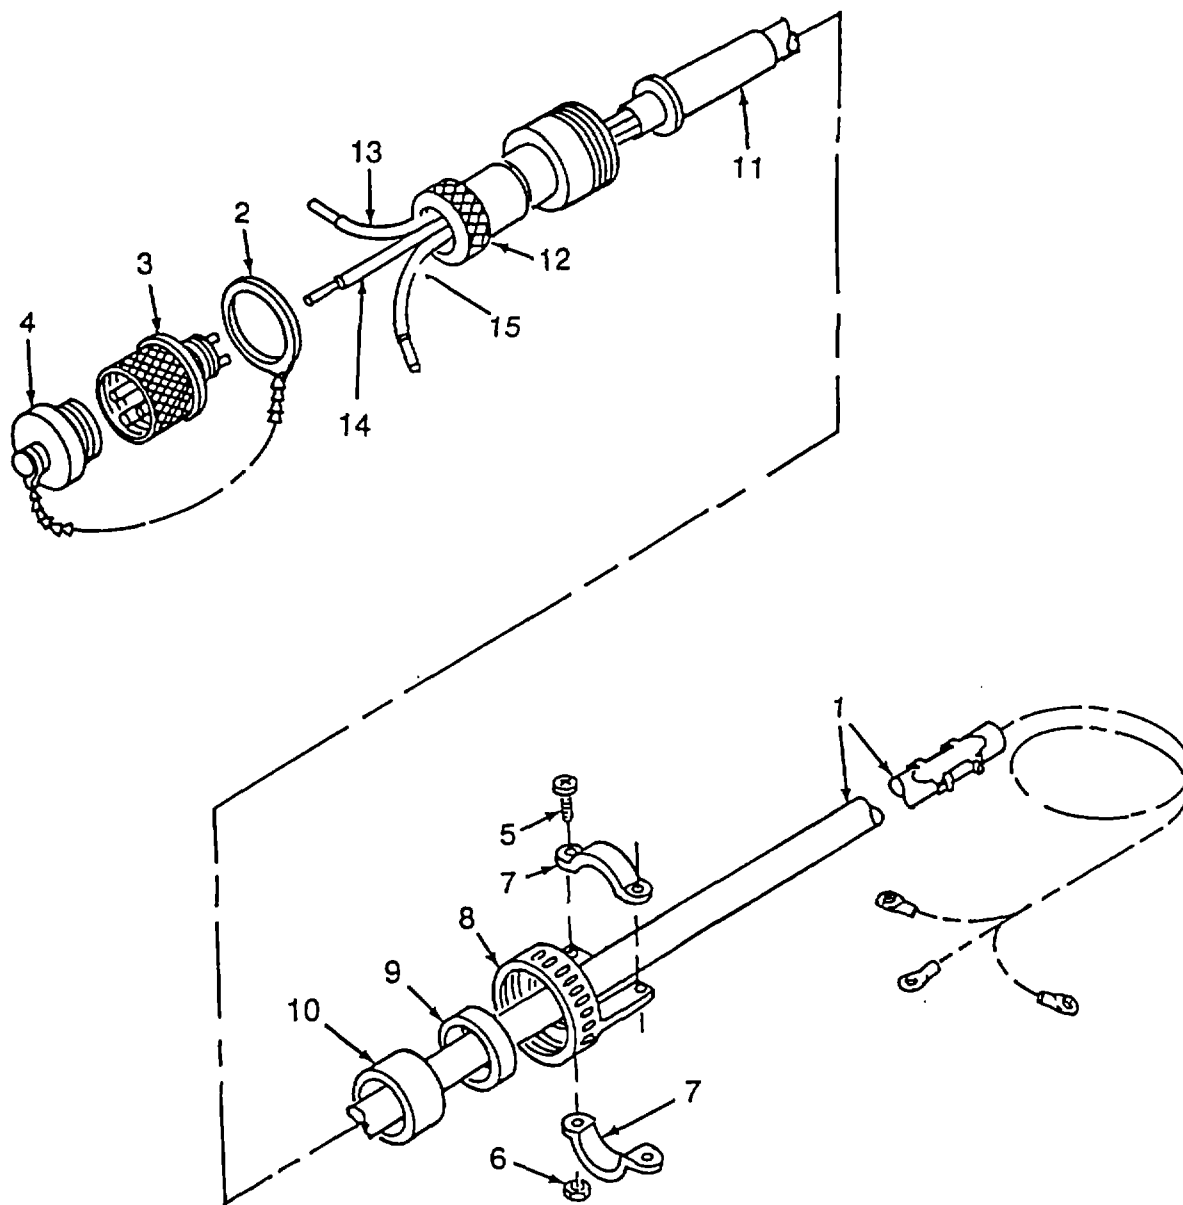

Figure 4-11. Remote Control Thermostat Repair(Sheet 1 of 3)
c. Repair - continued (Refer to Figure 4-11)
- (h) Slide cable clamp (8), grommet follower (9), grommet (10), rubber bushing (11), and sleeve assembly (12) on cable (1).
- (i) Strip .75 inch of insulation from cable (1) to expose insulated conductor wires (13), (14) and (15).
- (j) Strip .25 inch of insulation from insulation conductor wires (13), (14) and (15) Solder wires into connector plug (3) pins as follows:
- 1 Black wire (15), P3-A/TB2-2 to pin A.
- 2 White wire (14), P3-B/TB2-3 to pin B.
- 3 Green wire (13), P3-C/TB2-1 to pin C.